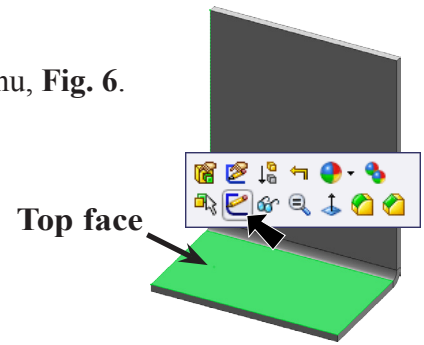

Fig. 6
Step 1. Click the **top face** and click **Sketch**  on the Content menu, **Fig. 6**.